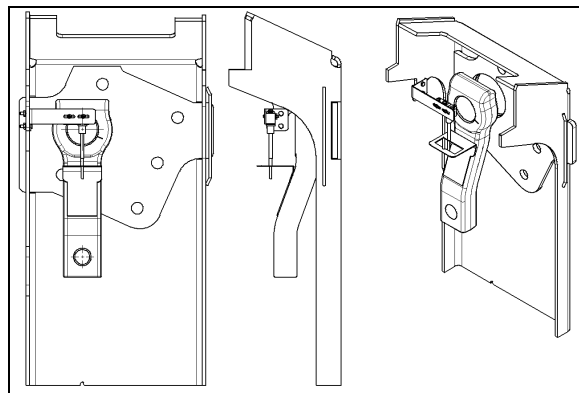

FIGURE 21: TAG AXLE UNLOADING SWITCH ADJUSTMENT 14061
- Line up switch lever with reference to the bracket center (Refer to Figure 21).
In selecting proper lubricants, supplier reputation must be considered. The supplier must be responsible for product quality. Figure 21 shows approximate location of steering lubrication fittings.